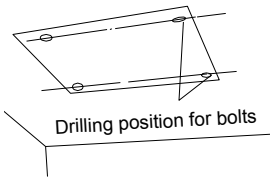

Fig. 4.4
- (1). Using the installation template, drill holes for bolts (four holes). (Fig. 4.4)